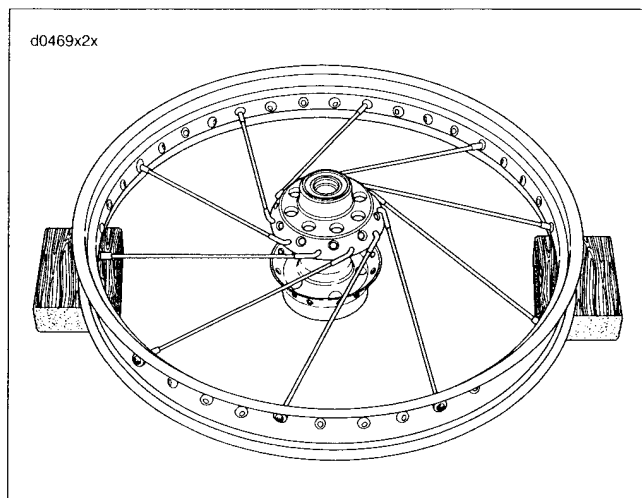

Figure 2-44.
4. See Figure 2-44. Install the rest of lower row spokes in every fourth hole.